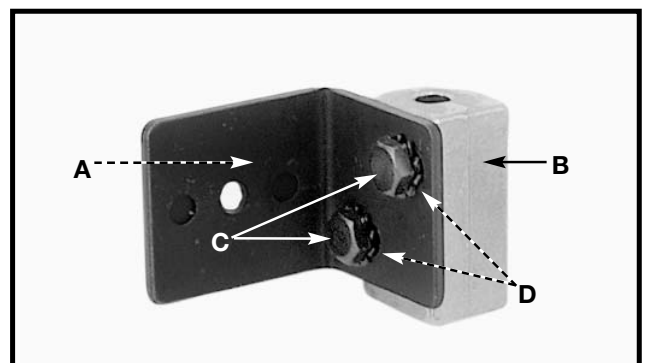

Fig. 9
2. Fasten the splitter support bracket (A) Fig. 9 to the splitter bracket (B) using two 1/4-20x1/2" hex head screws (C) and two 1/4" external tooth lockwashers (D).